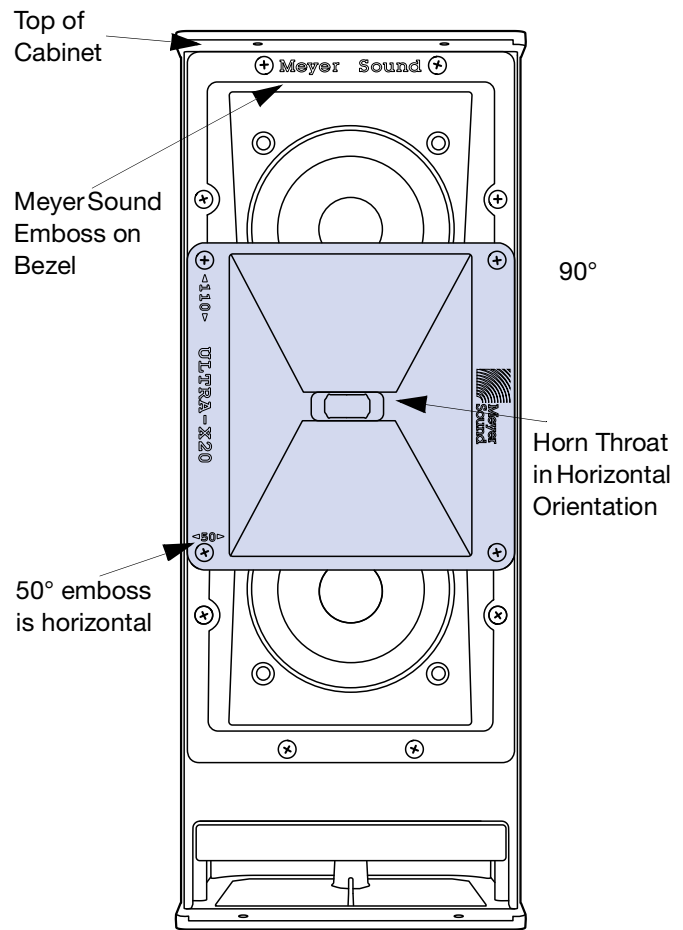

Figure 61: 50° horizontal by 110° vertical horn orientation
The cabinet is vertical and the horn is in the 50° horizontal by 110° vertical orientation when the Meyer Sound Logo on the horn is on the right, the horn throat is in the horizontal orientation, and the 50° emboss is also horizontal (Figure 61).
4. To rotate the horn from 110° x 50° to 50° x 110°, pull the horn out, rotate it **90°**, so that the horn throat is oriented horizontally, the Meyer Sound Logo on the horn is on the right, and the 50° emboss is also horizontal (Figure 61).